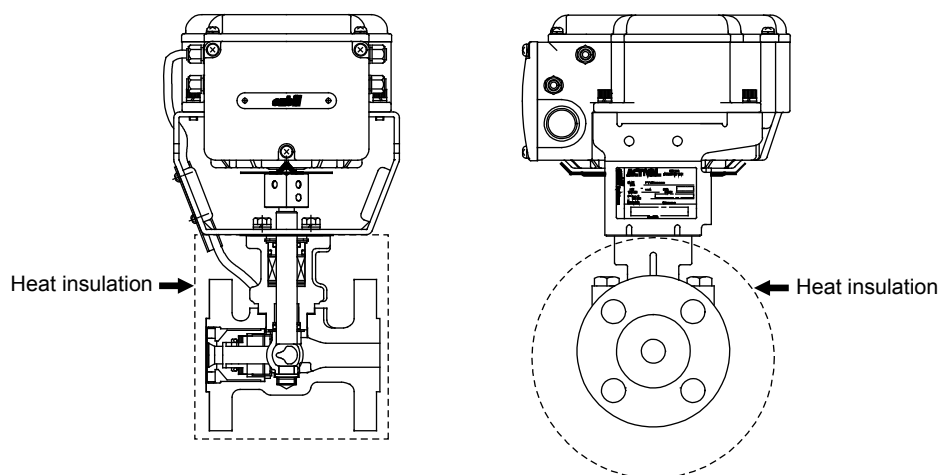

Figure 9. Heat insulating
- Apply heat insulation as illustrated by [] in Figure 9.